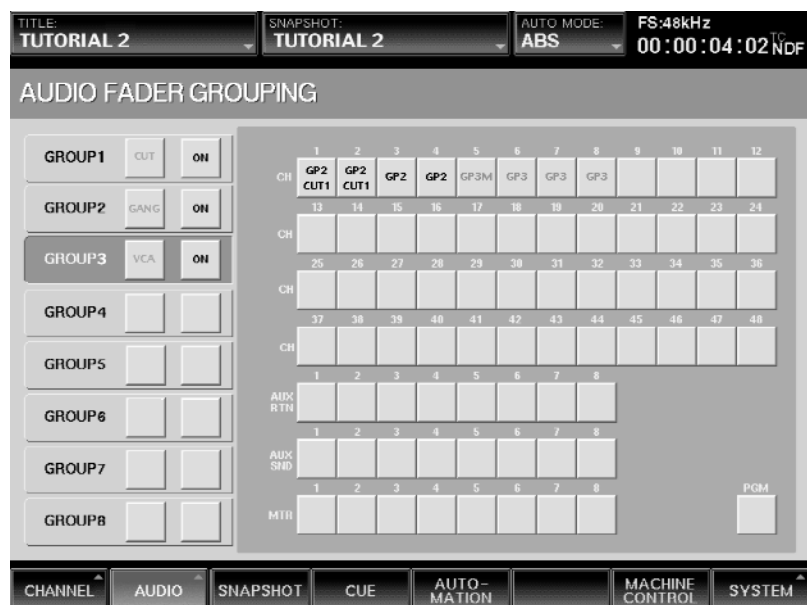

Figure 10
- 8 Finally, we'll place channels 5, 6, 7, and 8 into a VCA fader control group. Press the Mode button for GROUP3 repeatedly until it reads VCA. Then press the ON/OFF button for GROUP3 so that it reads ON. Touch the buttons for Channels 5, 6, 7, and 8: the words "GP3" appear in each, indicating that each of these channels have now been placed in Group 3, which has been designated as a VCA fader control group. (See Figure 10)